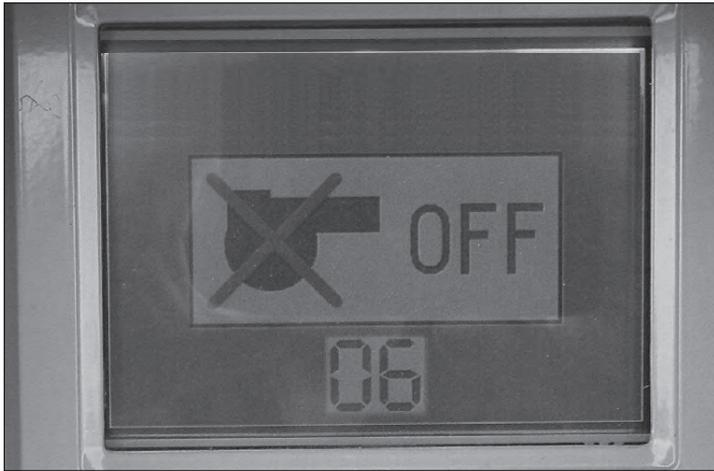

Figure 31
2. The display should change to the HEATER OFF screen, then to the COOL DOWN screen. The cool down cycle begins with shutting off the fuel flow to the burner nozzle(s). The main fan continues to blow air over the combustion chamber to cool it. See Figures 31 and 32.